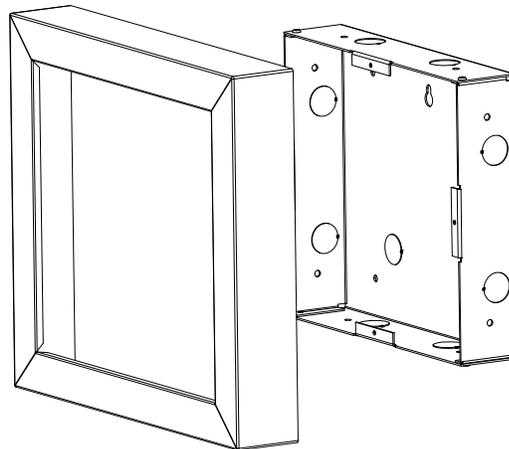

**Figure 4.24 Attaching Annunciator / Door Assembly to Backbox**
- Attach the door assembly to the backbox using the screws provided. Refer to Figure 4.24.